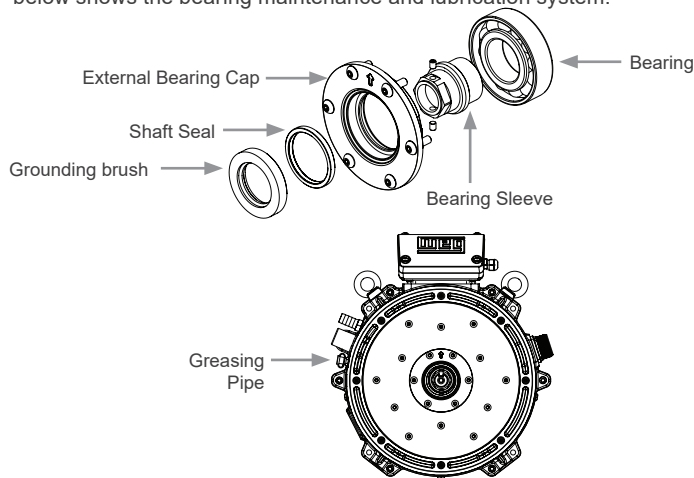

Figure 8.1: Bearing Lubrication and Maintenance
Figure 8.1 below shows the bearing maintenance and lubrication system.
- Grease is introduced through the greasing pipe, as indicated in the Figure 8.1 .
Tightening torques for external bearing cap and bearing sleeve are as follows Figure 8.1 :